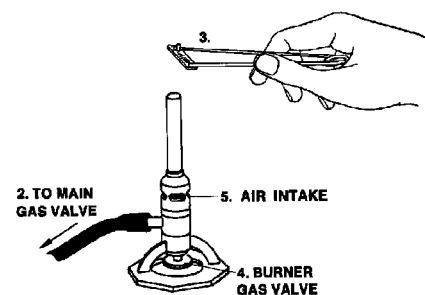

Figure 2.
4. Adjust the height of the flame with the burner gas valve (Figure 2) – again, just so it is snug or you will damage the valve.